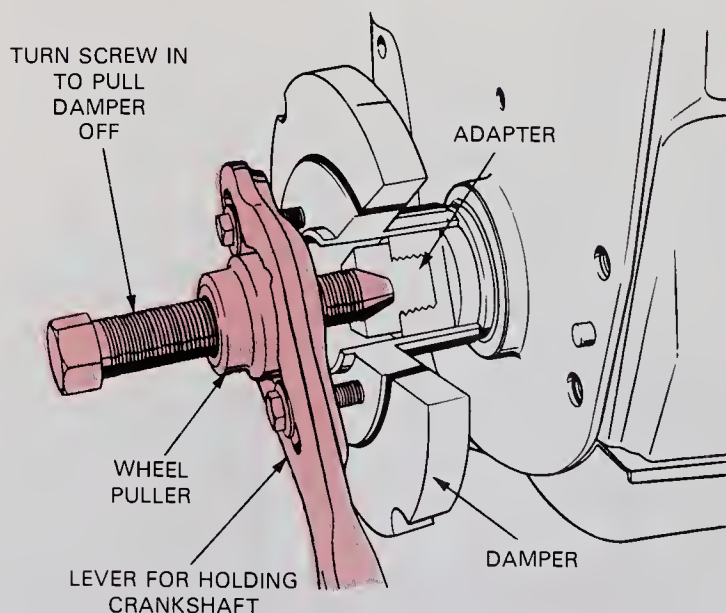

Fig. 46-12. Wheel puller is normally needed to force damper off of crankshaft snout. Use wrench to turn screw inward. This will force damper outward. (Buick)
3. A **wheel puller** is normally needed to remove the harmonic balancer or damper. The balancer is commonly press-fitted onto the crankshaft. Fig. 46-12 shows how to use a wheel puller.